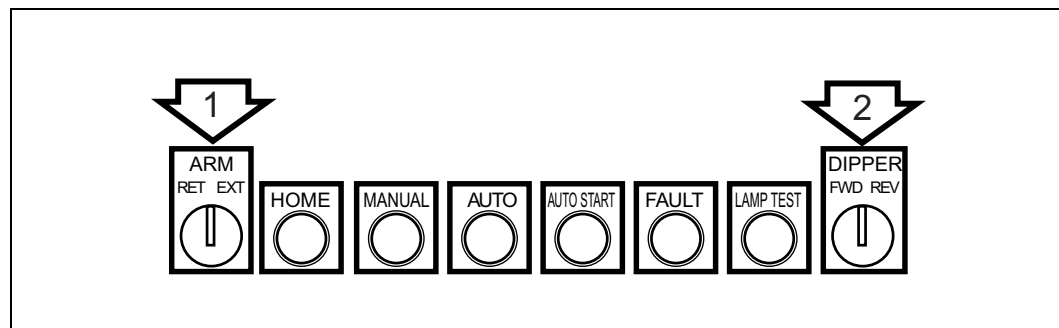
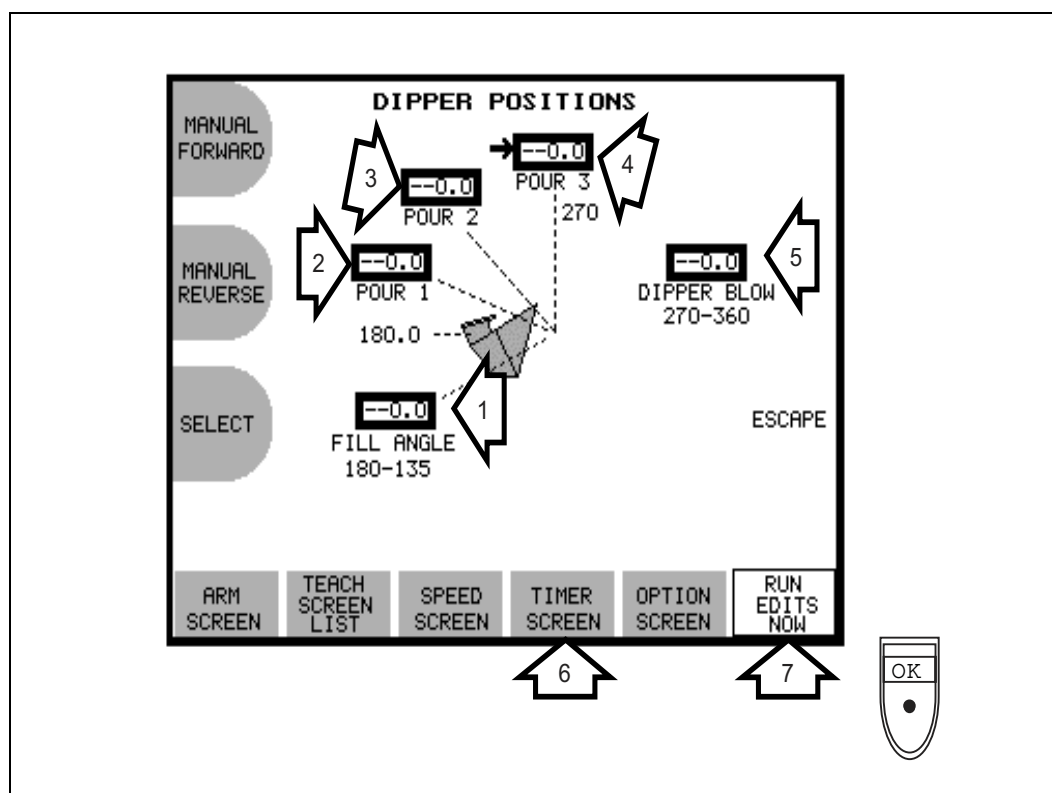

Figure 7-23: Manual Push-buttons
Figure 7-24: Dipper Positions Screen
8. Use the Manual Controls **ARM RET/EXT** (#1 on Figure 7-23) and **DIPPER FWD/REV** (#2) push-buttons to move the arm up out of the metal (just above the metal) and rotate the dipper forward until the metal just reaches the lip of the cup.
9. Use the arrow keys to move to the Pour Angle 1 field (#2 on Figure 7-24) on the Dipper Positions Screen. Enter this position as the Pour Angle 1. Press the **OK** key.
10. Use the arrow keys to move to the Pour Angle 2 field (#3 on Figure 7-24). Use the manual control DIPPER FWD/REV switch (#2 on Figure 7-23) to rotate the dipper until most of the metal (about 80%) pours out. Enter this position as Pour Angle 2. Press the **OK** key.
11. Use the arrow keys to move to the Pour Angle 3 field (#4 on Figure 7-24). Rotate the dipper cup again until all of the metal is completely poured. Enter this position as Pour Angle 3. This pour position might need to be modified (Step 16 on page 7-17) if the dipper cannot rotate fully when at the DCM. Press the **OK** key.
12. If the Dipper Blow feature is to be used, select this field (#5 on Figure 7-24) on the screen and use the manual control switches to move the arm and dipper to the desired position to be held while the dipper receives air blow. Enter this position in the Dipper Blow field and then press the **OK** key.
13. Press the **RUN EDITS NOW** key (#7 on Figure 7-24).